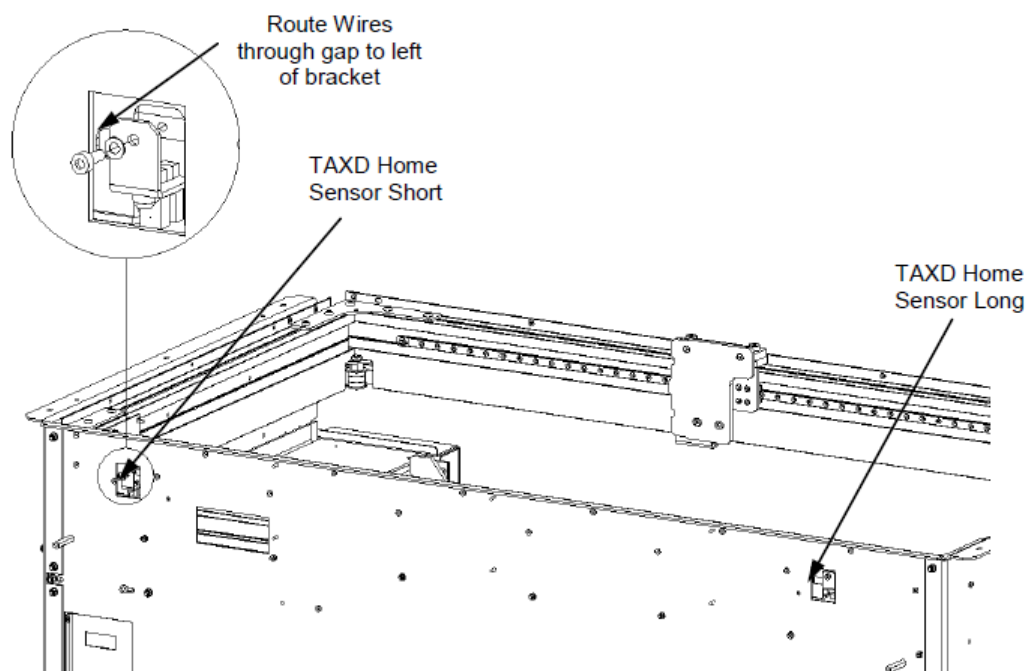

Figure X-3: The Transport Arm X Drive Sensors (Drive removed for clarity)
3. Remove the two Home Sensor assemblies to the Rear of the X Drive shown in Figure X-3.